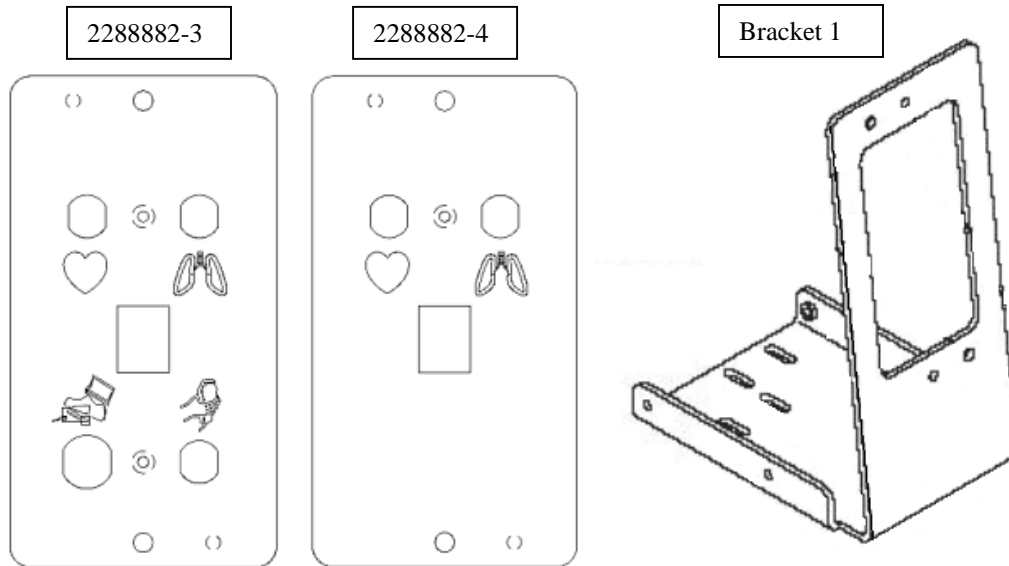

FIGURE 2-3 MOUNTING BRACKET 1 AND COVER PLATES
- Attach the appropriate bulkhead cover to the base cover-mounting bracket (Bracket 1), using two (2) nuts (Figure 2-3).